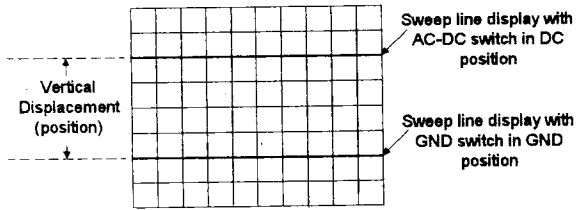
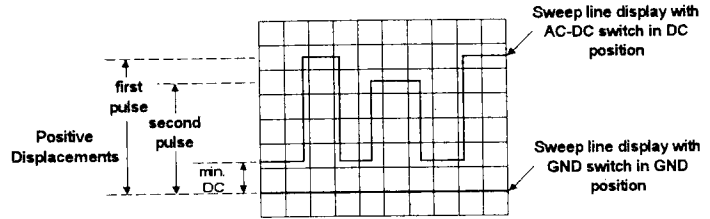

Fig.4. DC voltage measurement
Fig.5. DC level of waveform measurement
5. Press the AC-DC Switch to the DC position and note the sweep line displacement for a DC signal (see Fig. 4) or total signal height to the level where measurement is desired.(see Fig. 5) A vertical displacement of at least 3 divisions is suggested for optimum accuracy of measurement. The reference level may be re-checked by returning the GND switch to the GND position.
6. Calculate the displayed voltage by multiplying the number of divisions of vertical displacement times the setting of the VOLTS/DIV selector times the probe attenuation factor. For example for Fig. 4 if the VOLTS/DIV selector were set to 0.5V/div and the $\times 10$ probe used, the displayed voltage would be $5 \text{ DIV} \times 0.5\text{V/div} \times 10$ (probe factor) = 25 volts